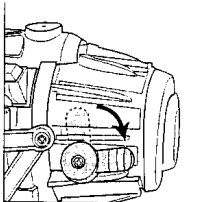

Fig 14
1) Close and lock the Rocket Motor Valve by moving the Valve Set Lever from the vertical position to the horizontal position. It will automatically return upright on its own. (Fig 14)